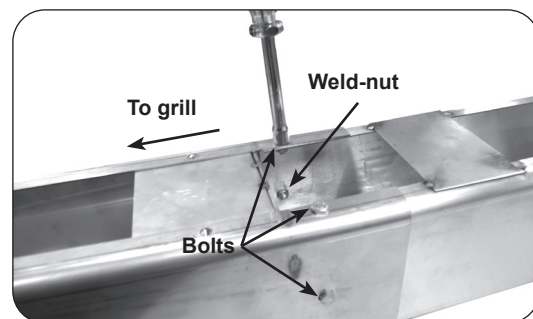

Fig. 29-2 Fasten extension to post
2. From outside the joined post and extension, insert one of the 1/4 X 20"-5/8 bolts (supplied) into each of the five (5) bolt holes and tighten each using a 7/16" socket driver or wrench (see Fig. 29-2).